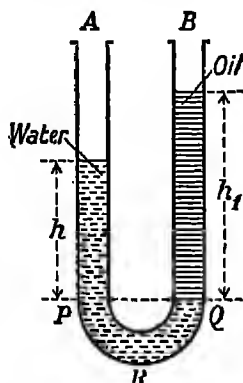

FIG. 202. To find the density of oil.
**Expt. 252.** To find the density of a liquid which will not mix with water (e.g. an oil). Clamp a U-tube with its long arms, *A* and *B*, vertically and arrange a scale behind it (Fig. 202). Pour some